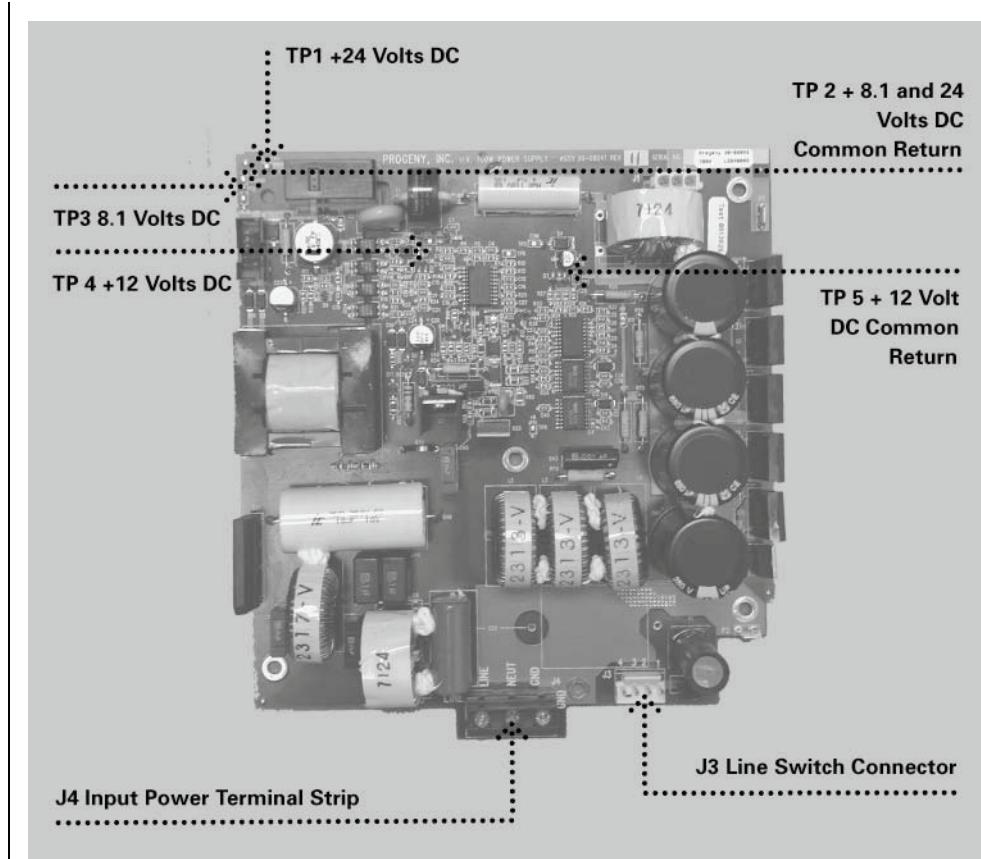

Figure 46
1. On the Power Supply Board 30-08041, check for the presence of 100 to 230 volts AC at J4, the Input Power Terminal Strip, as shown in Figure 46. If power is absent, check that the Preva is connected to line power.
2. On the Power Supply Board 30-08041, measure incoming power at J3, the Line Switch Connector, as shown in Figure 46. Positions 2 and 4 carry the line voltage before the Line Switch, and positions 1 and 3 carry the line voltage after the Line Switch. Voltage at the input side of the switch, but not at the output, requires replacement of the Line Switch E1-19000.
6. On the Power Supply Board, use TP2, as a common test point, and check TP1 +24 volts DC and TP3 8.1 volts DC, as shown in Figure 46. Then use TP5 as the common return to check TP4 for the presence of +12 volts DC. Should any of these voltages not be present, replace the Power Supply Board. If each voltage is present, inspect the condition of the ribbon cable between the Power Supply Board and the Logic Board. If the cable is undamaged and seated properly, replace the Logic Board.